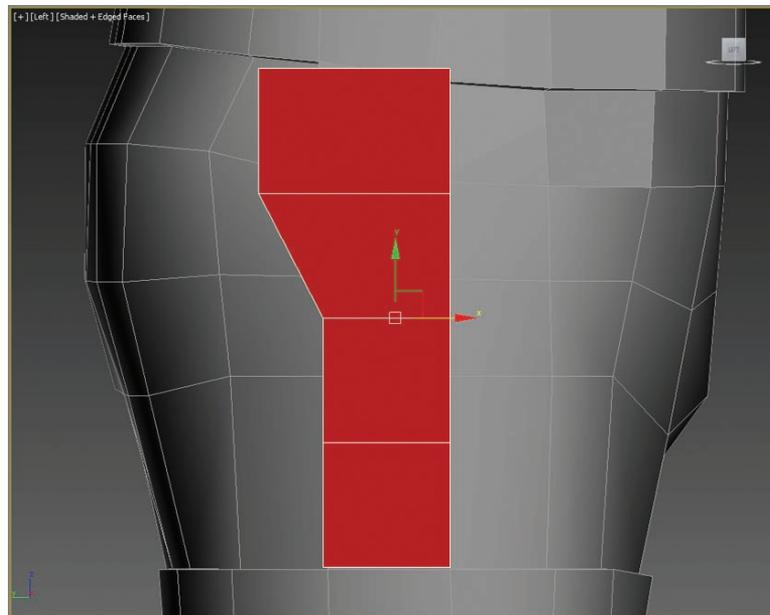

FIGURE 8.18 Shape the editable poly into a holster shape.
- Convert the plane to an editable poly (Graphite Modeling Tools tab > Polygon Modeling panel > Convert to Poly), and then in Vertex mode, shape it as shown in Figure 8.18.